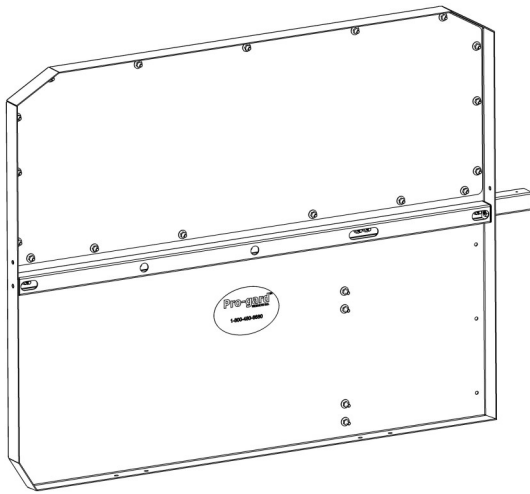

Figure 3a
2. Locate the Mother OSB Bar [3OSB472050], the Daughter OSB Bar [3OSB472074 or 3OSB572071 for Retractors], (8) [3X611] 5/16-18X7/8" button head screws, and (8) [3X619] 5/16-18 whiz nuts. Loosely install the bars in the orientation shown in Figures 3a and 3b. The small side of the through holes in the bars goes against the barrier and the whiz nuts go on the back side of the barrier. Ensure the small holes for mounting the seat on the Daughter OSB Bar are facing upwards.